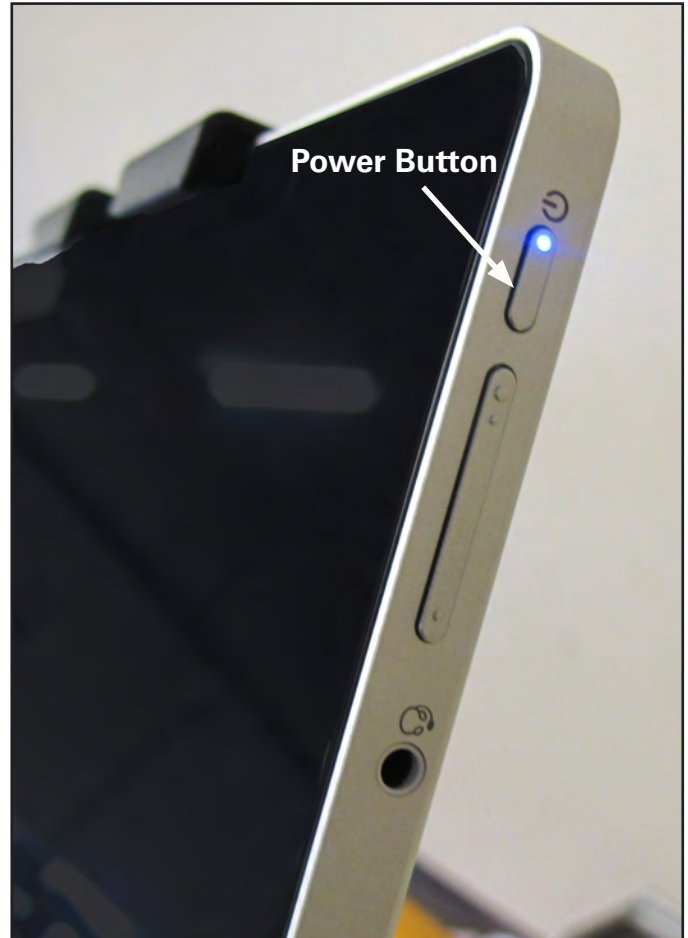

Figure 3.29
2. The tablet computer can be turned on by pressing the power switch at the top right-hand side of the screen (*Figure 3.29*).